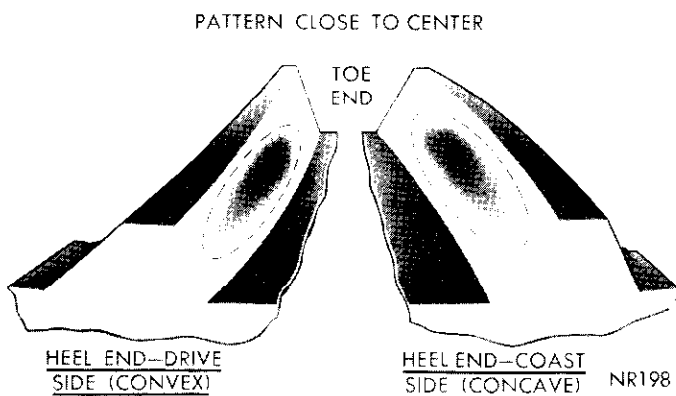

Fig. 34—Desired Tooth Contact under Light Load
(1) Apply a thin film of red or white lead on both the drive and coast side of the drive gear teeth. Rotate drive gear one complete revolution in both directions while load is being applied with a round bar or screwdriver between the carrier casting and differential case flange. This action will leave a distinct contact pattern on both the drive and coast side of the drive gear teeth.
(2) Observe the contact pattern on the drive gear teeth and compare with those in figures 34, 35 and 37 to determine if pattern is properly located. With pinion depth of mesh and gear backlash set properly, your contact pattern should resemble that in (Fig. 34). Notice that the correct contact pattern is well centered on both drive and coast sides of the teeth. When tooth contact patterns are obtained by hand, they are apt to be rather small. Under the actual operating load, however, the contact area increases.